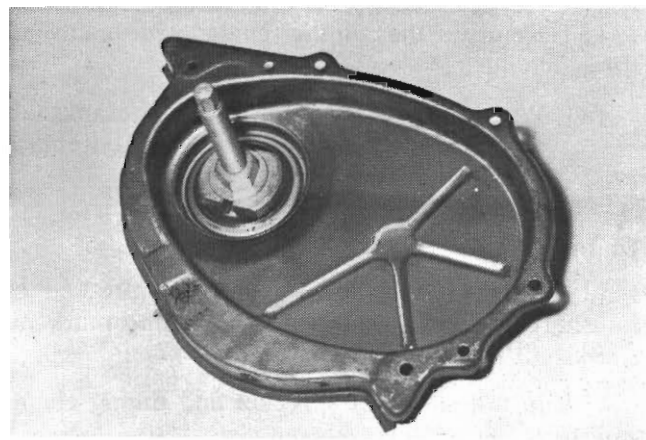

Fig. 28 - Positioning installer plate (Tool No. E9C57D)
(1) Insert puller screw through removing and installing plate so that the thin shoulder will be facing up.
(2) Insert puller screw with plate through the seal opening (inside of chain case facing up).
(3) Place the seal in cover and place the seal installing plate into the new seal, with protective recess toward lip of seal retainer (Fig. 28).